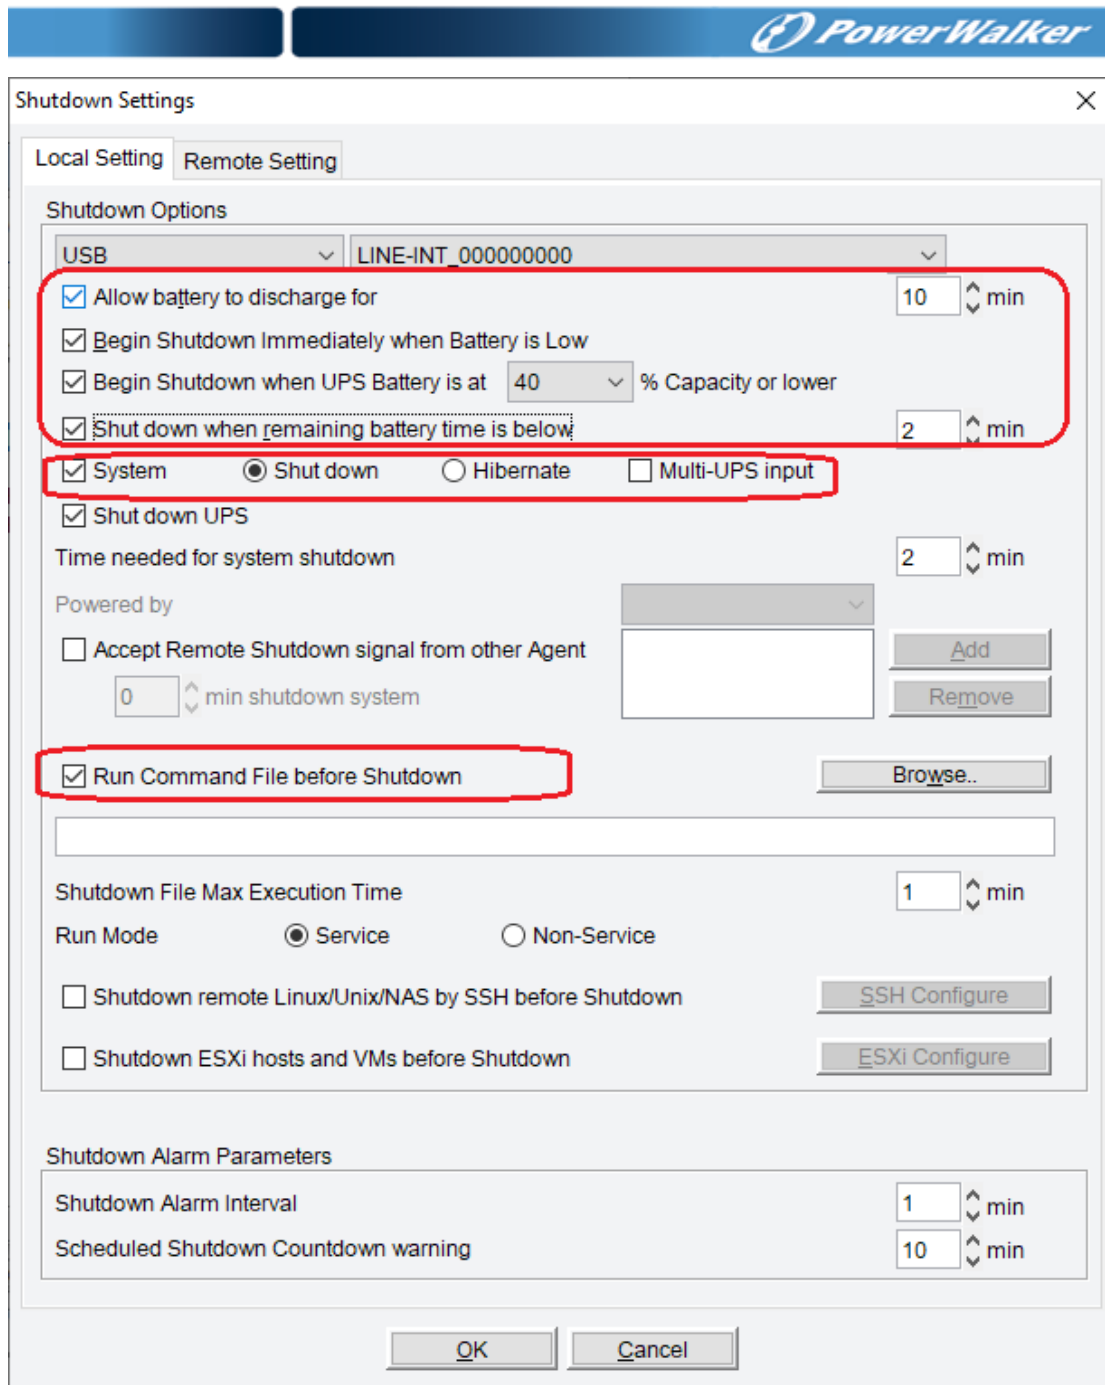

Figure 4.7.2
3. Select Shutdown Settings from the Device menu. Set the battery backup time, and select the Begin Shutdown Immediately if Battery Low check box and the Run Command File before Shutdown check box (refer to figure 4.7.2).